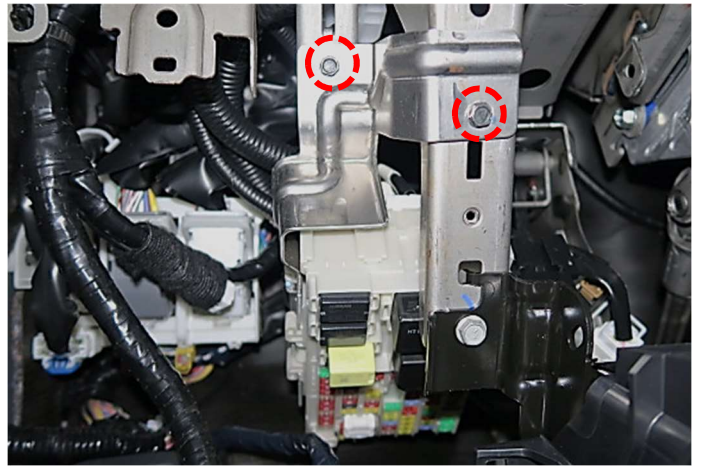

Figure 9
9. Remove the (2) bolts that secure the fuse block to the instrument panel bracket. (Figure 9)